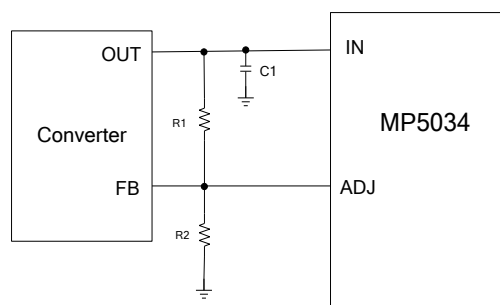

Figure 3: ADJ Configure
Figure 3 shows the typical ADJ usage. The ADJ sink current capability is 500μA. The feedback current through R1 must be less than 500μA. Calculate R1 with Equation (1):